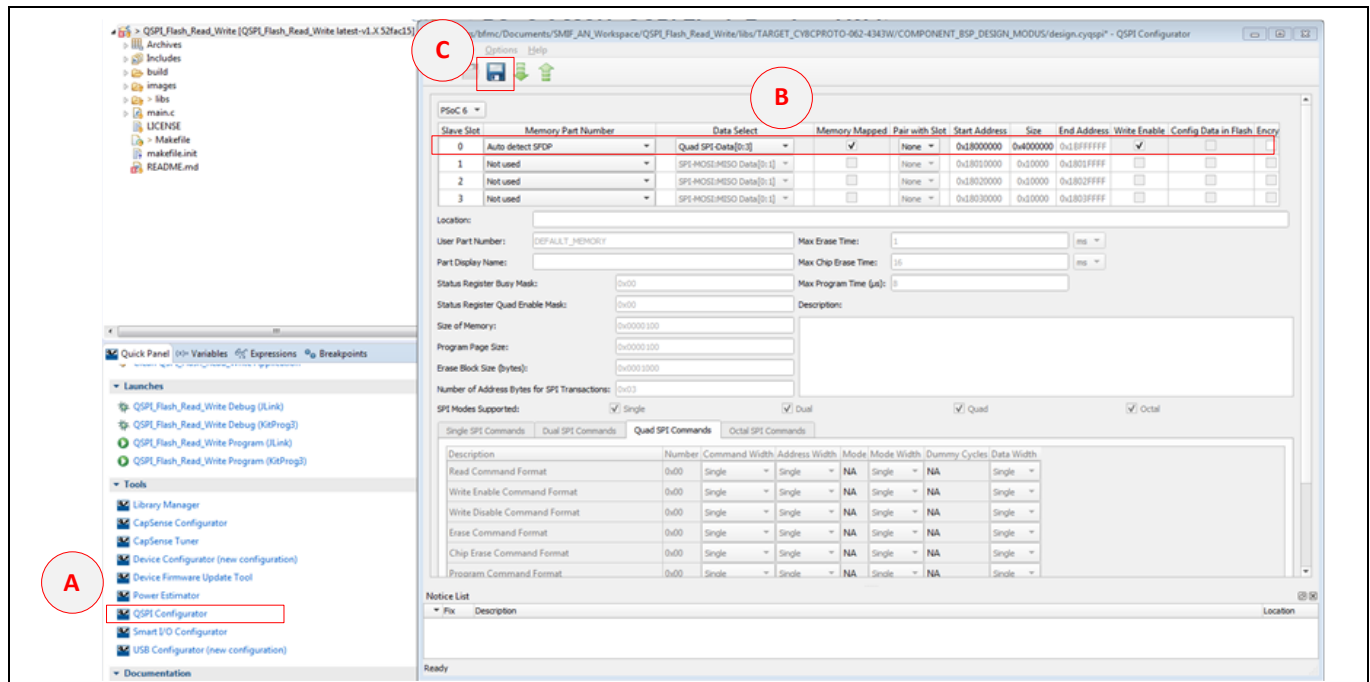

Figure 3 Steps to Use the QSPI Configurator
2. Generate the QSPI configuration structures using the QSPI Configurator. **Figure 3** shows an example configuration suitable for use with any PSoC™ 6 MCU kit that has an external flash device.